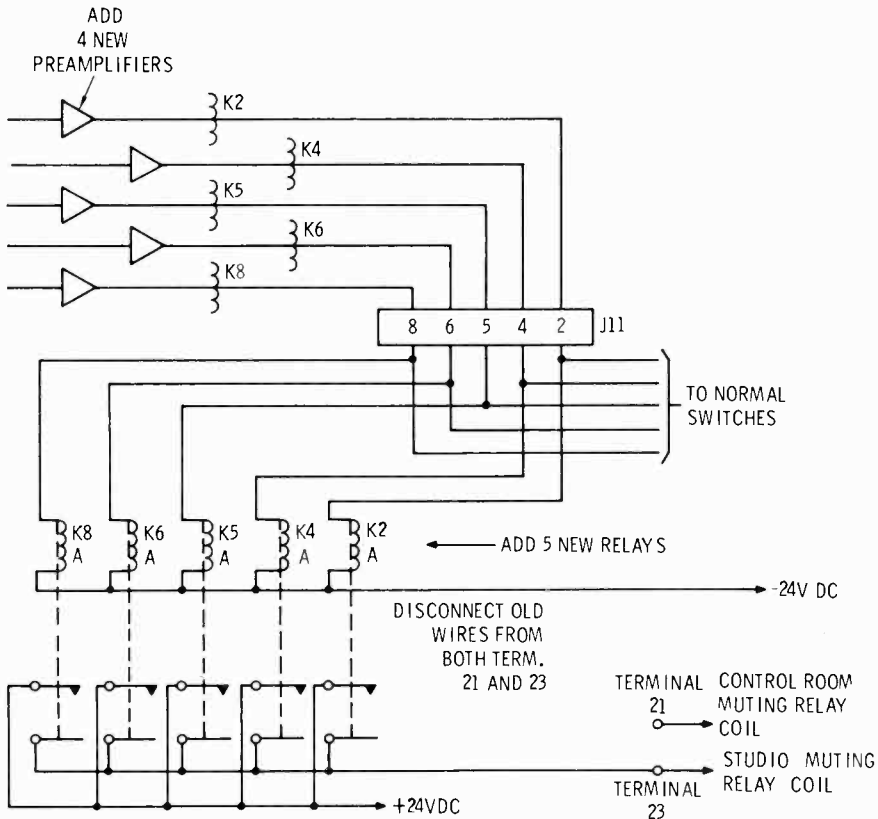

Fig. B-1. TC-4A modifications to add new microphone channels and to add new relays so that the new microphone positions will mute the studio relay.
1. Providing More Microphone Circuits (Fig. B-1)